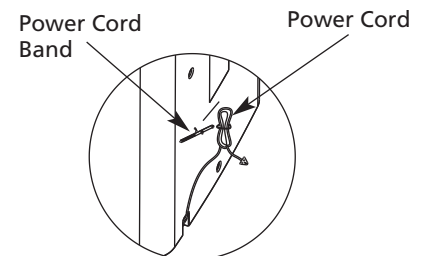

Figure 19
- d. Stop the appliance and unplug it, wrapped the cord and bundle it with the tape (Fig.19). Remove the batteries from the remote controller.